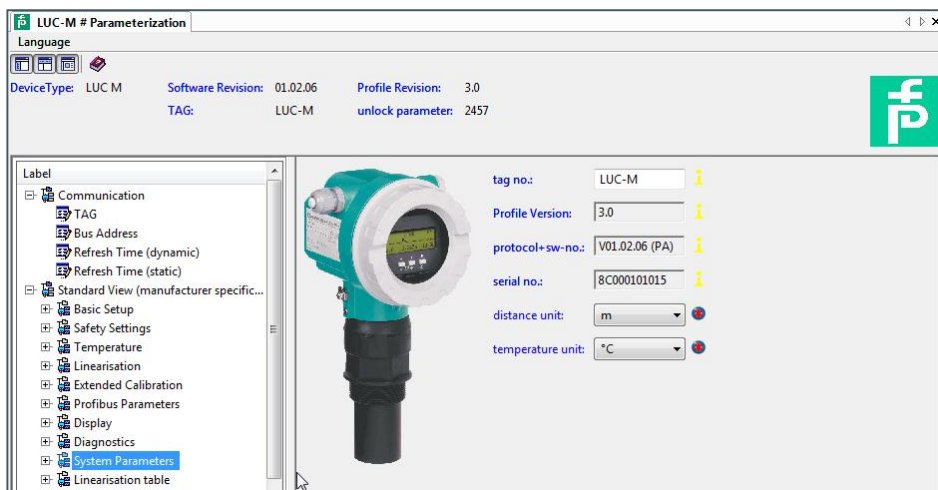

Figure 64: Setting parameters of device offline
- 2) Manipulate the parameters as necessary (see: Figure 64: Setting parameters of device offline).